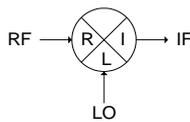

Figure 3. Frequency conversion stage using a mixer.
Fundamentally, each conversion stage consists of a frequency mixer that mixes two input signals and producing a wanted third. The wanted third component is selected, via a frequency filter, among other signals generated in the mixing process. The three primary components of the signals in each conversion mixer are commonly known as the local oscillator (LO), radio frequency (RF), and the intermediate frequency (IF) as shown in Figure 3.